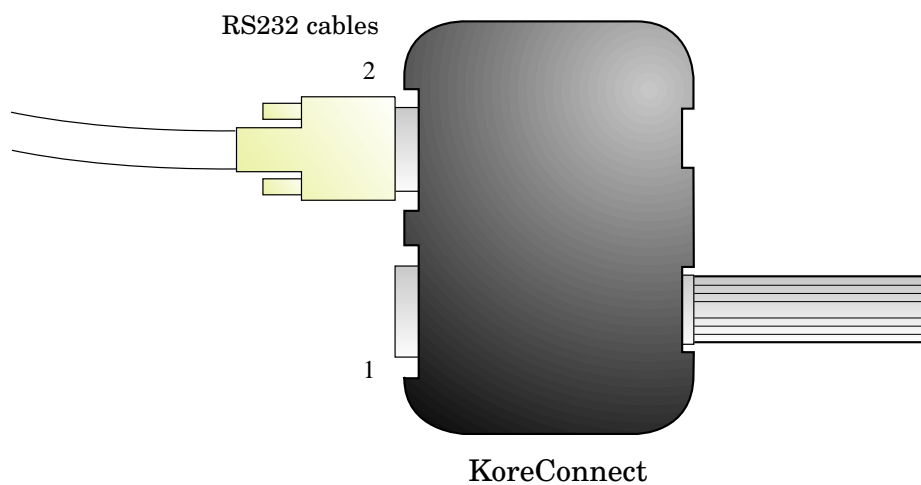

Figure 4.1: Connection when the robot is used without a KoreBot II.
- The KoreConnect should be connected to the host computer using a standard RS232 cable. in this mode, the cable has to be connected on the DB9 connector number 2 (see fig 4.1). You can easily purchase such a cable from your host computer dealer.